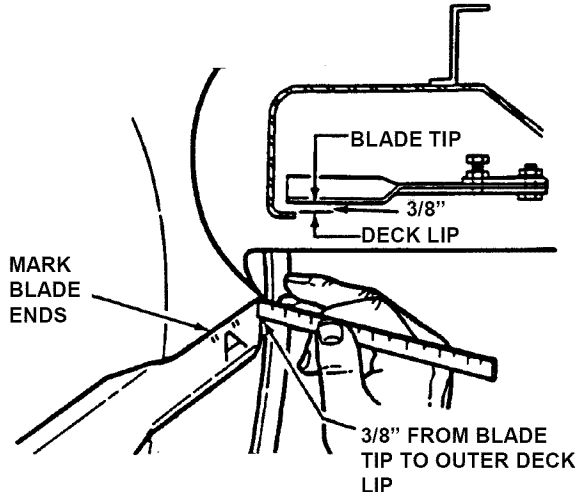

FIGURE 4.6
8. Measure the distance between deck lip and blade tip. NOTE: On 33" decks, the measurement between the blade tip and deck lip should be  $3/8"$ . See Figure 4.6.